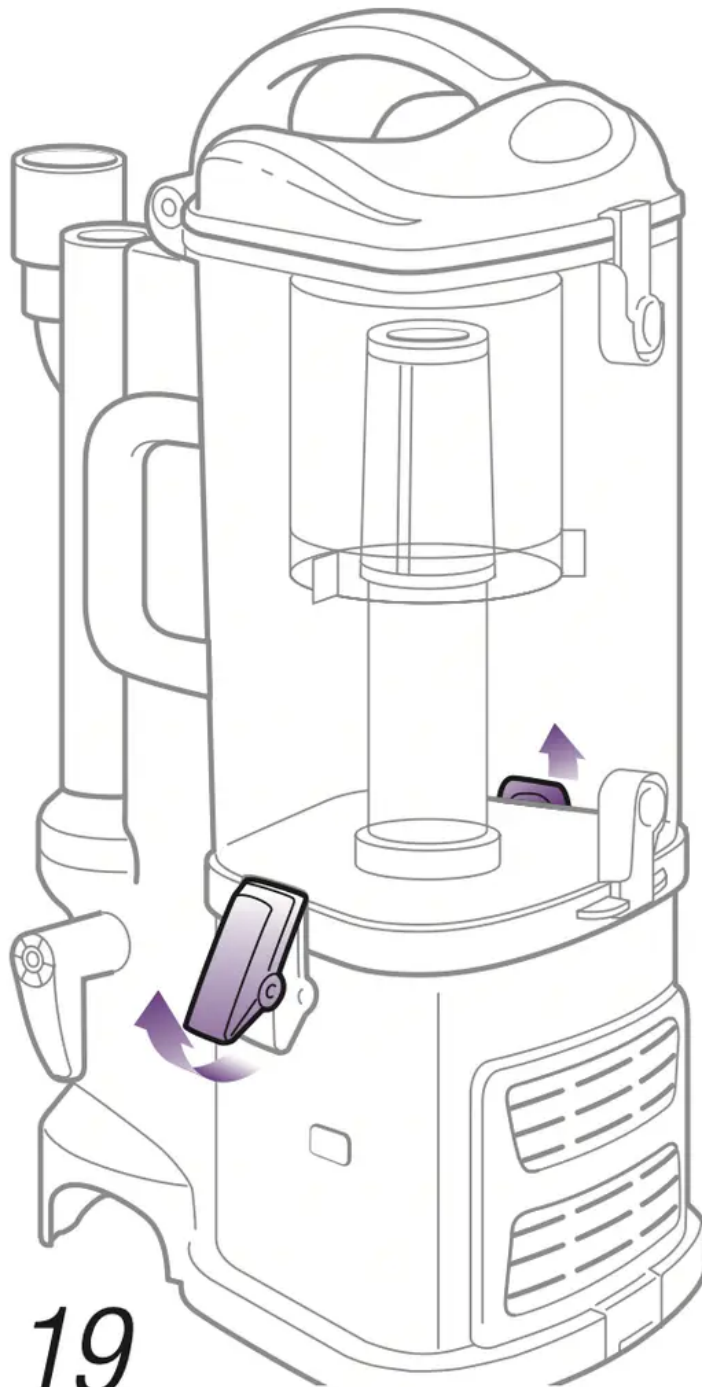

Fig. 19
1. Undo the latches on the sides of the dust cup by lifting them up and outwards to remove the dust cup from the motor base. (Fig. 19)